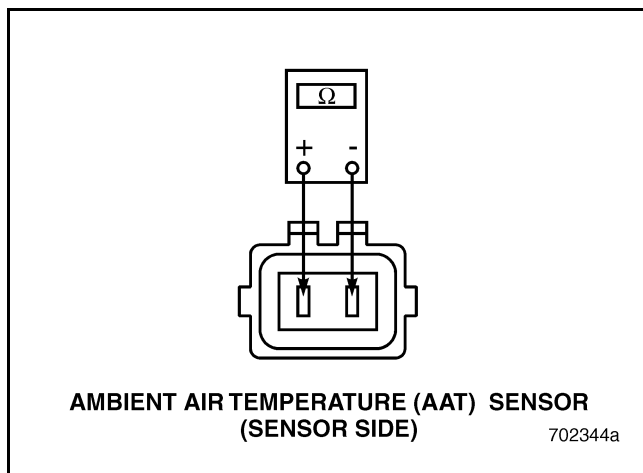

Figure 69
3. Measure the resistance across the pins of the AAT Sensor with the ambient air temperature between 32° and 104°F (0° and 40°C) (see Figure 69).